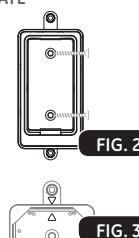

FIG. 3
1. Place remote mount with wallplate bracket where mounting, and mark the remote mount holes on the wall [FIG.2]. Arrows on the back of remote mount indicate the top [FIG.3].
*To separate the remote mount from the wallplate bracket, hold the wallplate bracket by the wallplate holes. Turn the wallplate bracket so you are looking at the arrows [FIG.3]. Gently push the remote out of the wallplate bracket.
NOTE: If reassembling the wallplate bracket with the remote mount, verify that the arrows line up on the back of the remote mount and wallplate bracket [FIG 3].